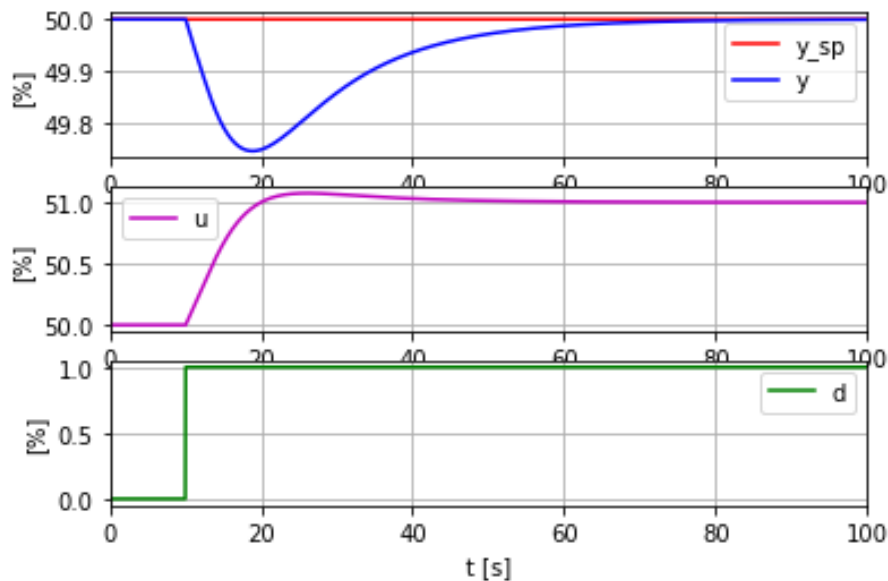

Figure 6
Figure 6 shows the response due to this step change. The steady state control error is zero, so the compensation is perfect in steady state.
- b) (7.5 %) In the program, $K_c = 3.5$, which is used as K_{cu} in Repeated Ziegler-Nichols' method. In Figure 6, we read off a period of about 1400 s, which is used as P_u in the Repeated Ziegler-Nichols' method. We then get: